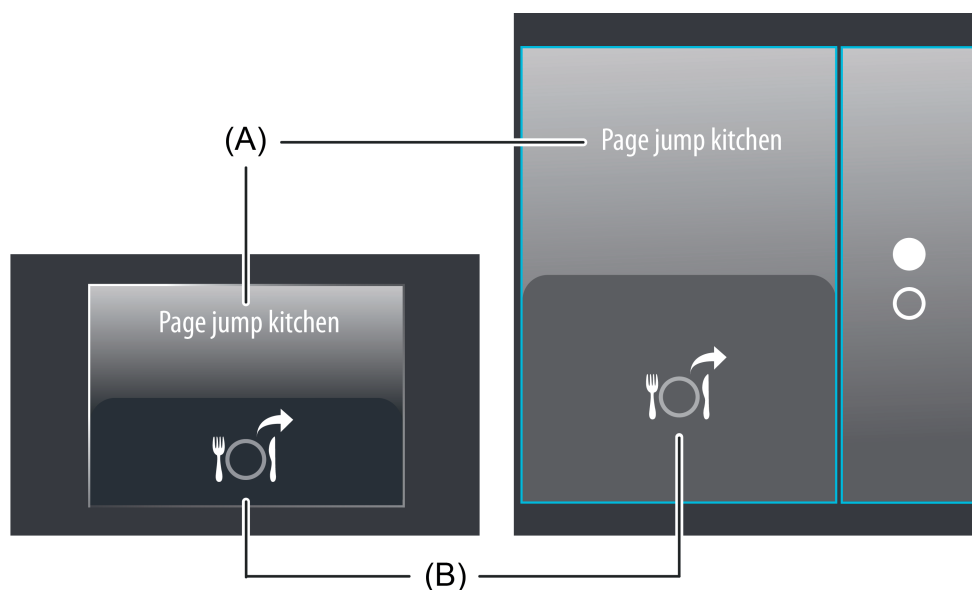

Figure 43: Example for operating element of the function "Internal open page"
The display area contains different display elements (figure 43) that are influenced by parameters. A name can be assigned to each KNX function in the configuration software (A). This text name is centred in the display element for display whereby controllable functions are identified for the user (e.g. "Page jump kitchen").